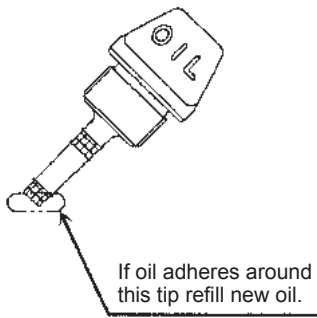
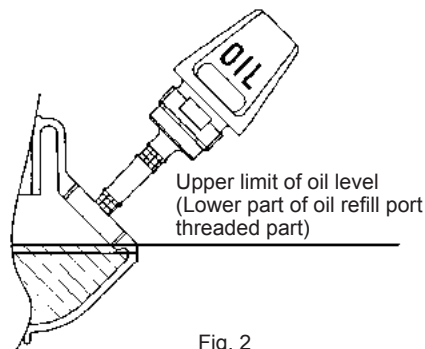

Fig. 1
Fig. 2
- When the oil is in short in such a way that the oil gauge touches the oil only by its tip, in particular with the oil gauge remaining inserted in the crankcase without screwing-in (Fig. 1), refill new oil near the port (Fig. 2).
- (1) Keep the engine level, and detach the oil gauge.
- (2) Fill oil up to the edge of the oil refill port. (Refer to Fig.2 of the preceding page).